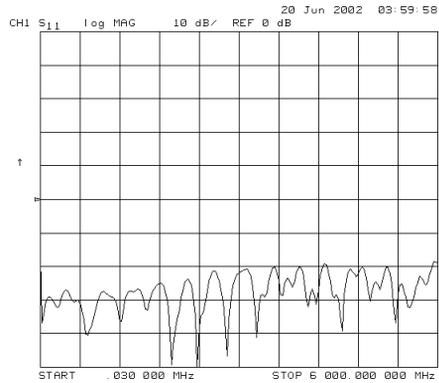

Figure 1-15. Forward Transmission Mode
- 12 Look at the measurement trace displayed on the Agilent 8702D. It should be similar to the trace displayed in Figure 1-15.